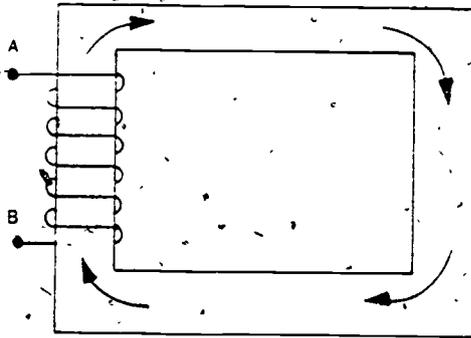

Figure 6. Determining Current Flow in a Coil
8.) Indicate the direction of current through the coil in figure 6 in order to establish flux in a clockwise direction through the iron core.